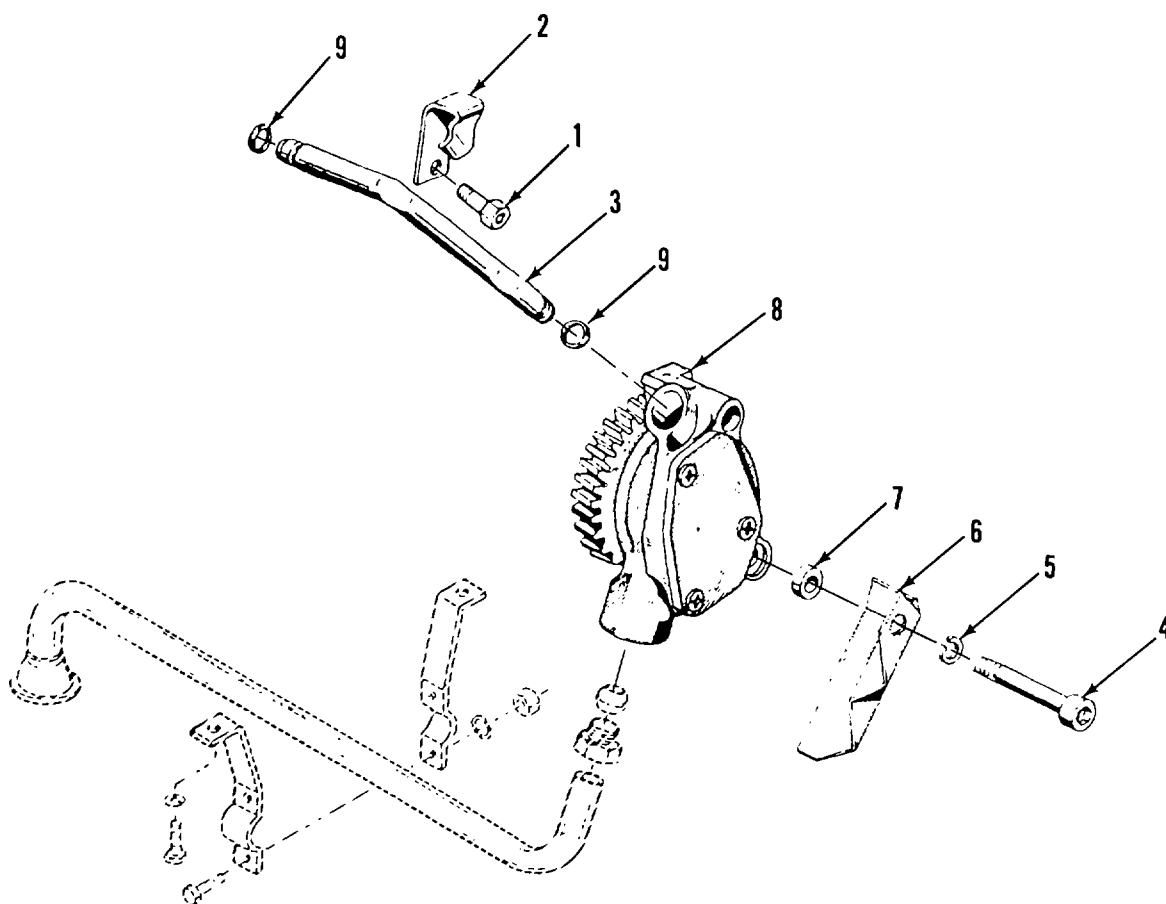

Figure 4-14. Oil Pump and Oil Pump Discharge Pipe
a. REMOVE. (Figure 4-14)
- (1) Remove bolt (1) and yoke (2) holding oil pump discharge pipe (3) and idler gear hub to crankcase.
- (2) Remove two bolts (4), lockwashers (5), baffle plate (6), and flat washers (7) holding oil pump (8) to crankcase. Remove oil pump discharge pipe (3) and oil pump (8) together.
- (3) Remove oil pump discharge pipe (3) from oil pump (8). Remove O-rings (9).